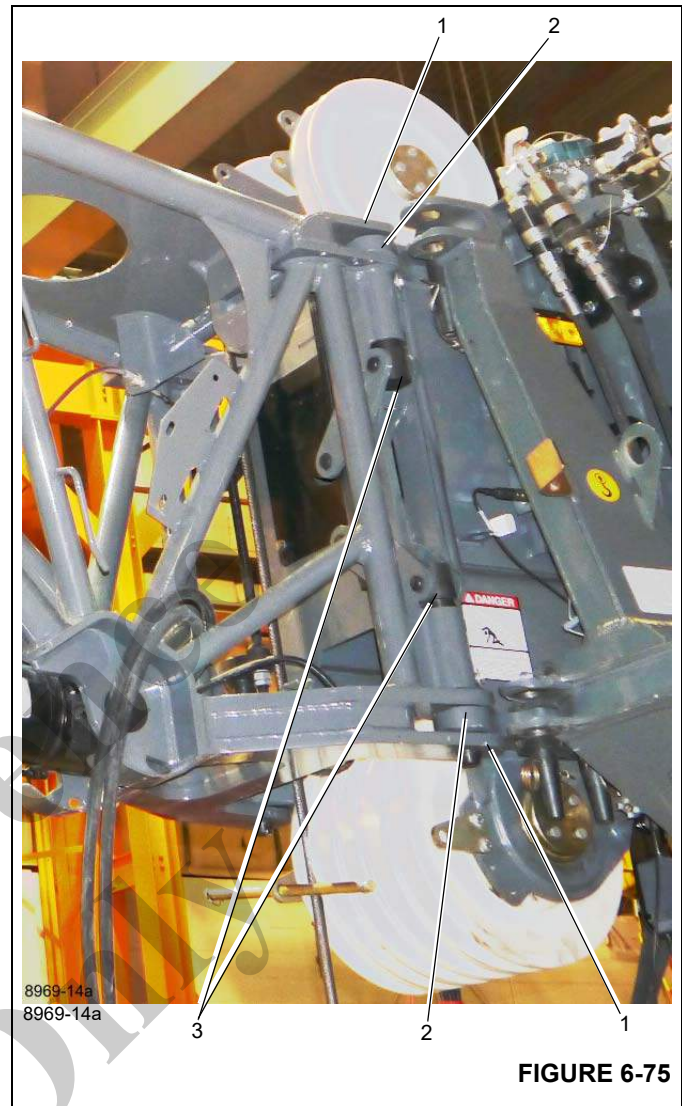

FIGURE 6-75
6. Align the extension anchor fittings (1), (Figure 6-75) to the boom nose attachment fittings (2), (Figure 6-75).
7. On both sides of the boom nose install the pins (3), (Figure 6-75) through the fittings using an impact driver turning the jack screw counterclockwise.